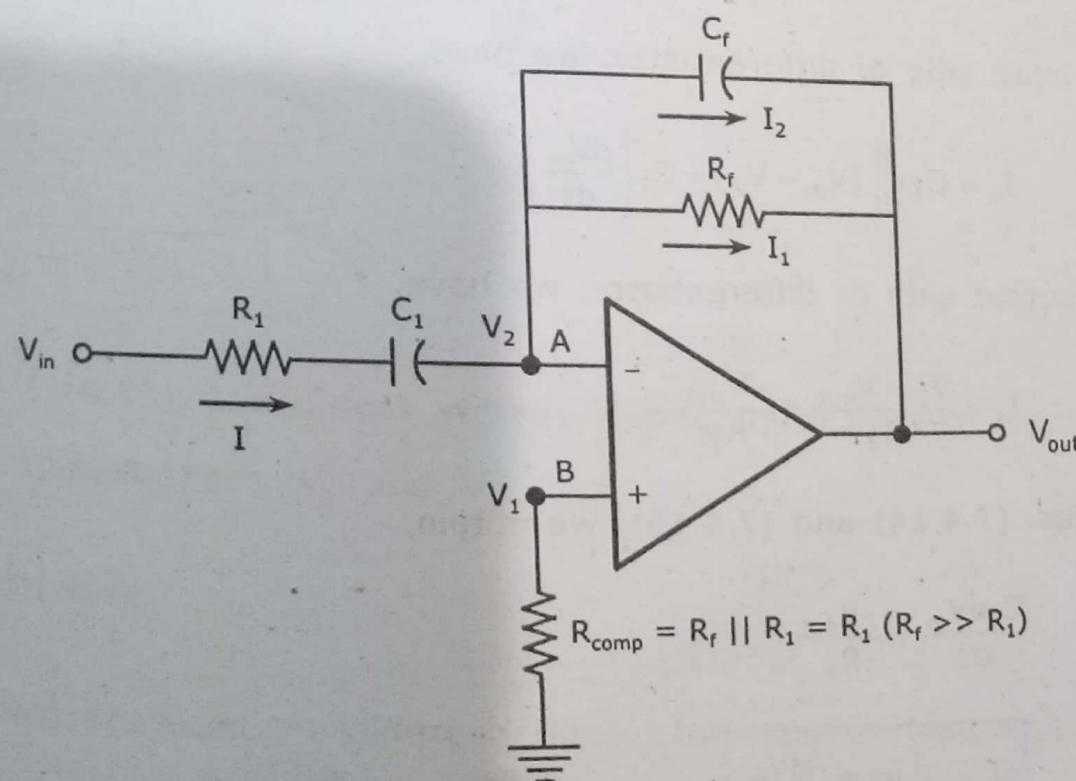

Fig. 7.4.10 Practical Differentiator Circuit
The noise and stability at high frequency can be corrected, in the practical differentiator circuit using the resistance R_1 in series with C_1 and the capacitor C_f in parallel with resistance R_f . The practical differentiator circuit is shown in Fig. 7.4.10. The resistance R_{comp} is used for bias compensation.
(1) **Analysis of a Practical Differentiator** : Since input current inside op-amp is zero there is no current input at node B. Hence it is at the ground potential. From the concept of the virtual ground, node A is also at the ground potential and hence $V_1 = V_2 = 0$ in Fig. 7.4.10.